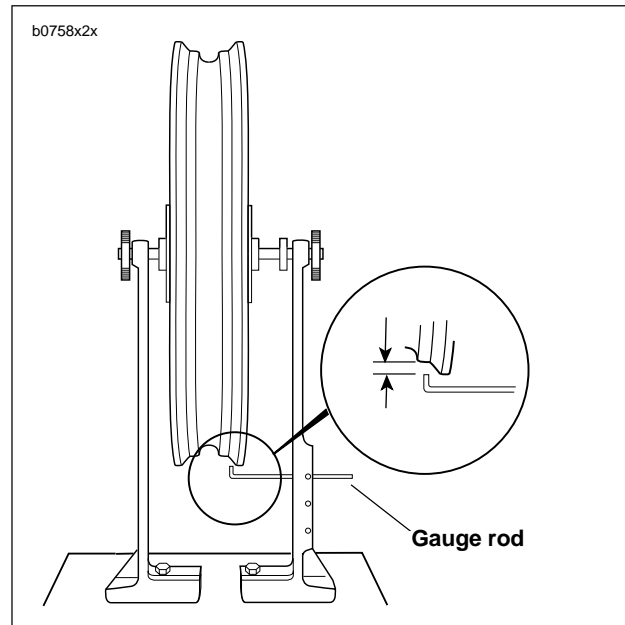

Figure 2-26. Checking Cast Rim Radial Runout Using Wheel Truing and Balancing Stand (HD-99500-80)
1. See Figure 2-26. Figure 2-26. Install truing arbor in wheel hub and place wheel in WHEEL TRUING AND BALANCING STAND (Part No. HD-99500-80).